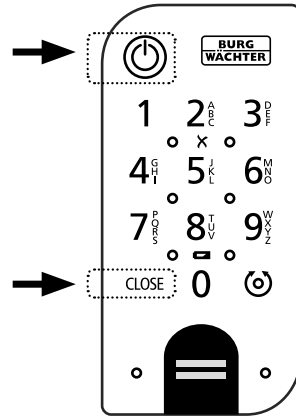

Fig. 7
- 1 Activate the keypad by pressing either the ON key or the CLOSE key (Fig. 7).